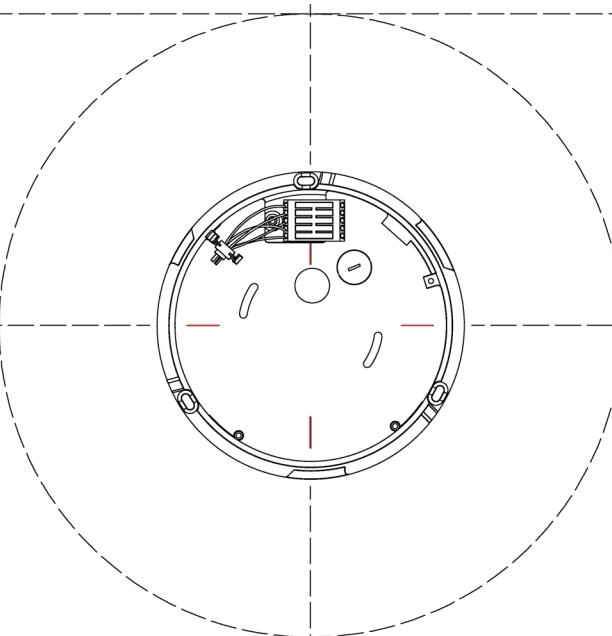

Figure 1
2. Attach the surface mount collar to the ceiling using three (3) countersunk screws. **IMPORTANT:** J-box mounting for grounding purposes only, do not mount to J-box alone. Mounting hardware supplied by others. Mounting surface and hardware must be rated to support the weight of the fixture. (See Table 1)
3. **NOTE:** To align multiple fixtures see Figure 1. Two installers are necessary for installation steps four (4) and five (5).